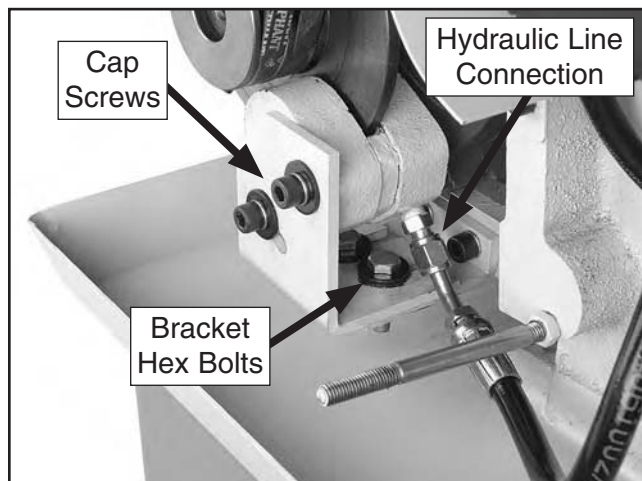

Figure 117. Brake caliper connections.
3. Remove the two caliper mounting cap screws and bracket hex bolts shown in **Figure 117**, then, as you remove the caliper bracket, also remove the caliper from the rotor.